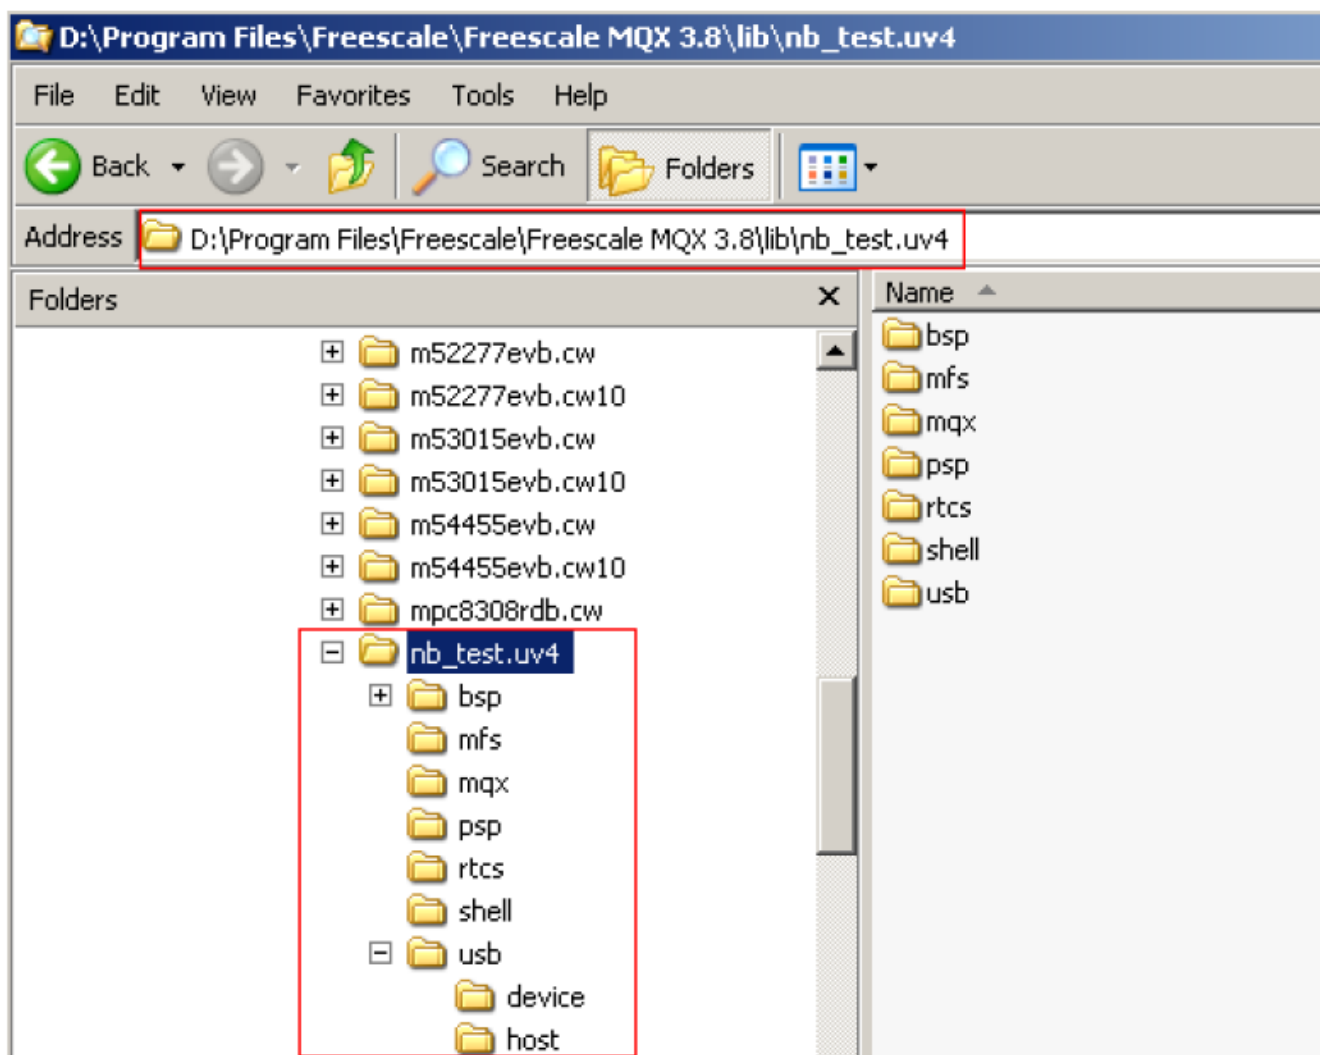

Figure 7. Create output folder at \lib
1. Create the output folders at <mqx_install>\lib. See Figure 7. Create the folder nb_test.uv4 and its subfolders, including bsp, psp, mqx, mfs, rtcs, shell, usb, usb/device, usb/host. For MQX 3.8, the output folder mqx is not necessary.